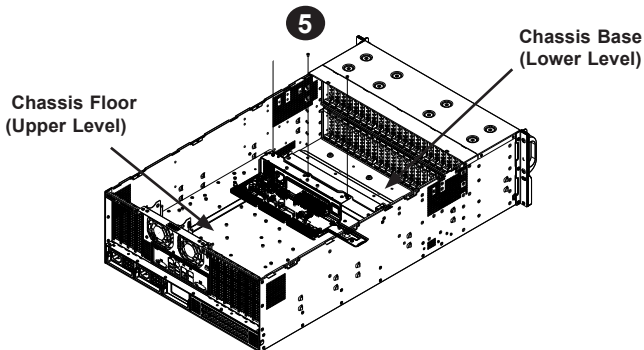

Figure 4-25: Removing Screws Securing the Power Distributor Board Bracket
10. Secure the power distributor board bracket by using the three screws previously set aside as shown in Figure 4-25.